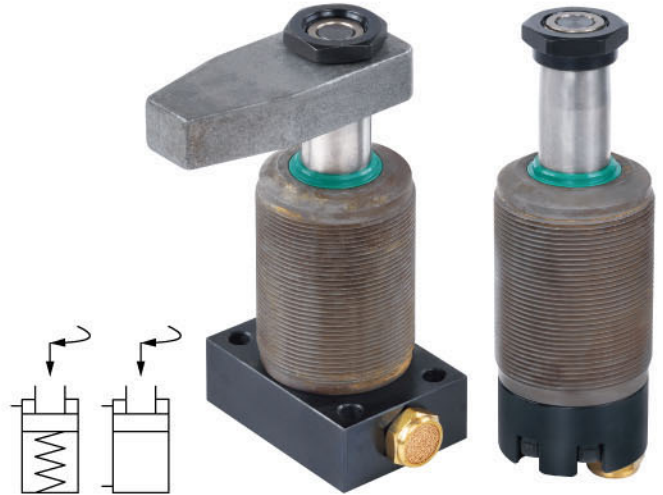

Figure 1
- The clamping action of a swing Clamp cylinder consists of two parts (as shown in Figure 1). It first rotates to a specific angle and then lowers to clamp the workpiece. It's essential not to clamp the workpiece during the rotational stroke, as it can damage the internal rotational mechanism.